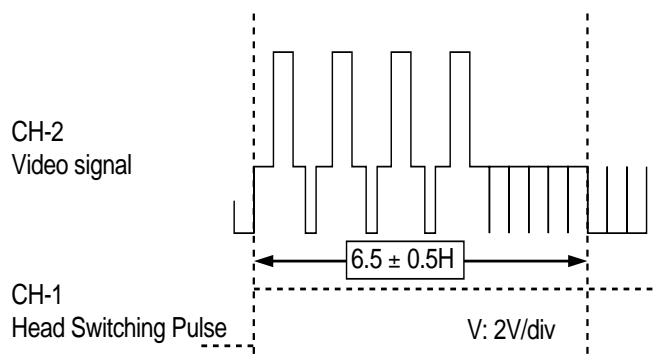

Figure 5-2.
5. Check that V-Sync is $6.5 \pm 0.5H$ and the waveform is as shown in Figure 5-2.